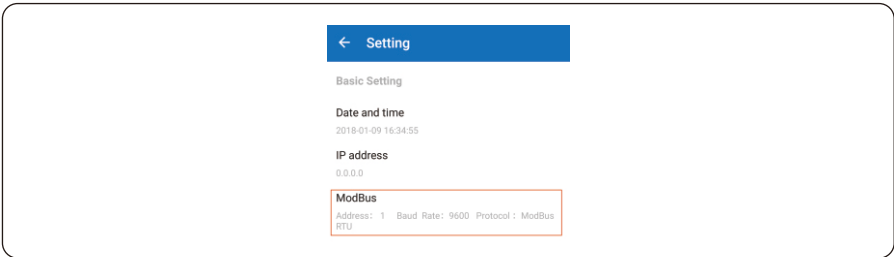

Figure 5.19 Check the Modbus address
Step 3 Check the Modbus address in Figure 5.19, the default address is 1, long click to revise the address and save it, the inverter at same RS485 bus must be set a unique address.